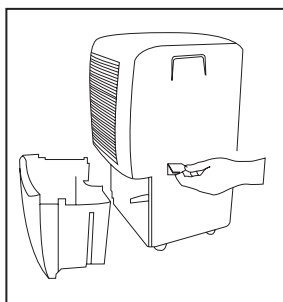

fig. 1
- c. Lift up the side flap located on the right side of the unit as looking from the front. (fig.1)